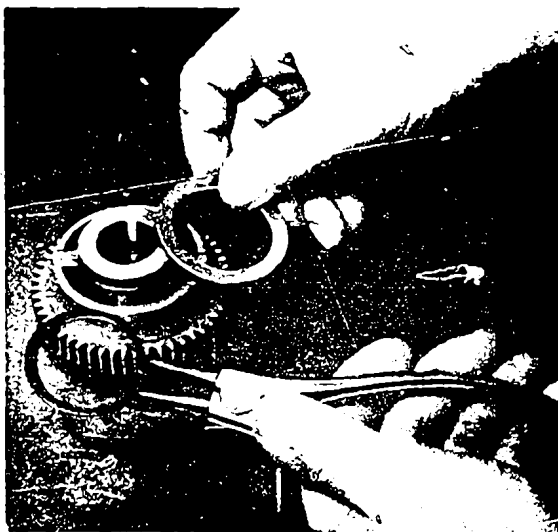

Fig. 28 Removing washer and circlip
23. 6. If the rubber damping inserts (162) in the drive gear from the pump camshaft require renewal, remove circlip (164) and lift off washer (163) (Fig. 28). Press hub out of gear thus releasing the four rubber damping inserts.